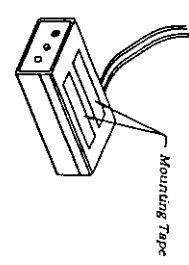

Figure 2-2
2. MOUNT the receiver using the mounting tape attached on bottom of receiver. (Figure 2-2)